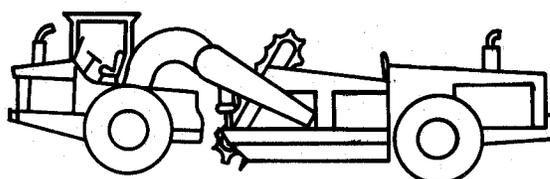

Figure 8 – Two engines
5.1.4.2 Two engines (figure 8)